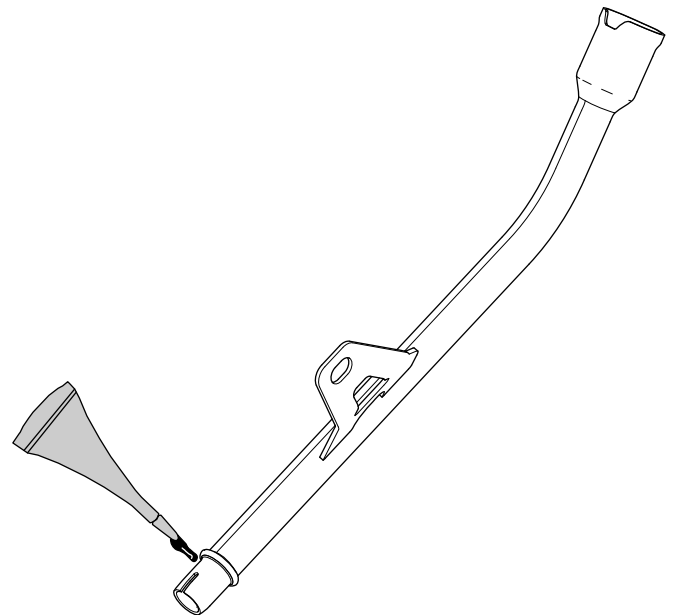

Figure 8
4. Apply the Loctite® 620 uniformly and evenly around the sealing surface of the dipstick tube (Figure 8).